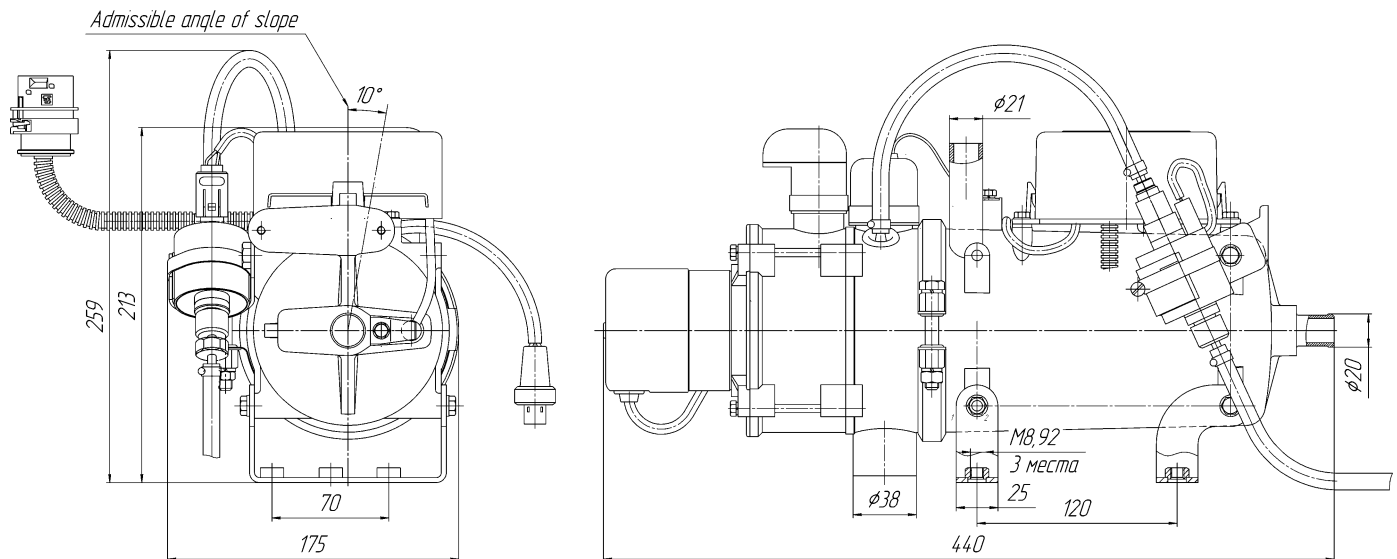

Figure 5- Allowable working positions of the pre-heater
Installation shall be performed taking into consideration permissible working positions of the pre-heater according to figure 5 and item 10.1. and 10.1.2.